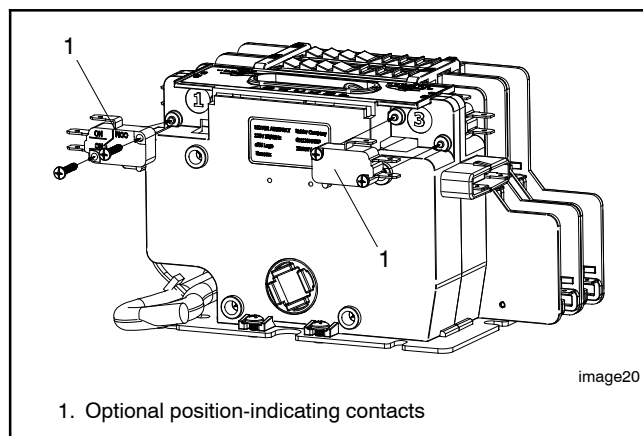
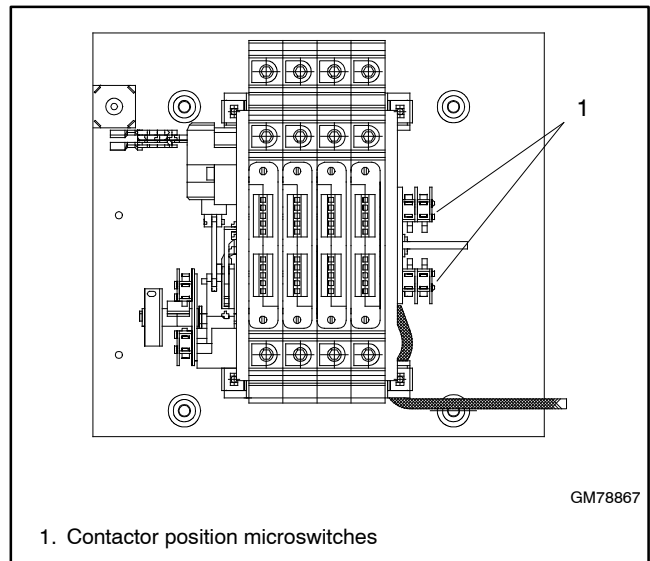

Figure 5-12 Optional Contacts (available on select single-phase models only)
Figure 5-13 Position-Indicating Microswitches, 100/200-Amp 3-Phase Models
Three-phase models include position-indicating microswitches on the contactor assembly. Optional position-indicating contacts are available on select single-phase models as shown in Figure 5-12. Check the position-indicating microswitch operation in the case of faulty position indication, failure to transfer fault, or auxiliary switch fault. Disconnect power to the ATS before checking the switches.
5. See Figure 5-12, Figure 5-13, or Figure 5-14 for the position-indicating microswitch locations.